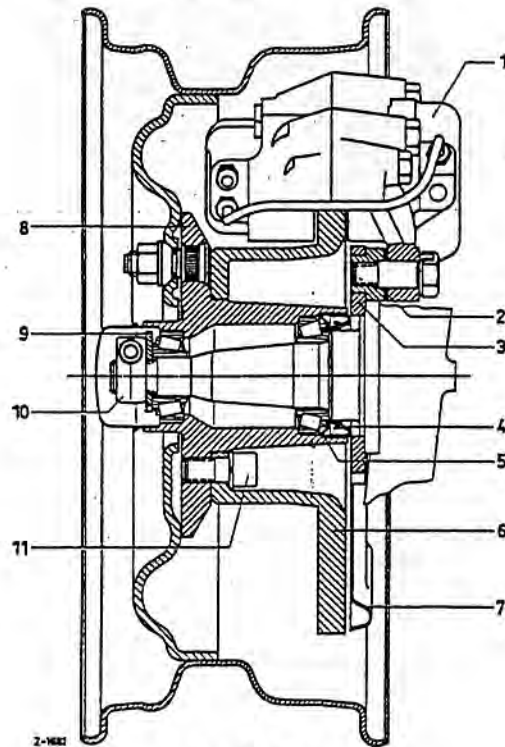

Fig. 33-5/4a
14. Check the washer which is ground on both sides (2) and, if necessary, regrind or replace it (Fig. 33-5/2).